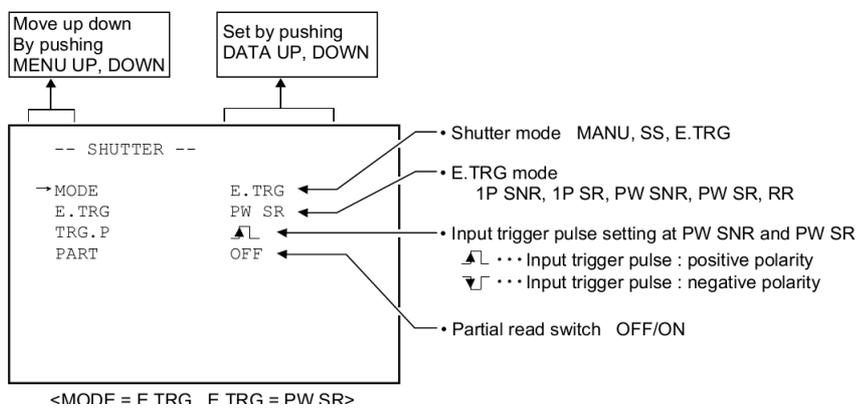

Figure 16: IK-TF5 shutter menu settings
2. the "shutter " Menu fields in the software setting menu of the camera (Fig. 16) should be set as follows: